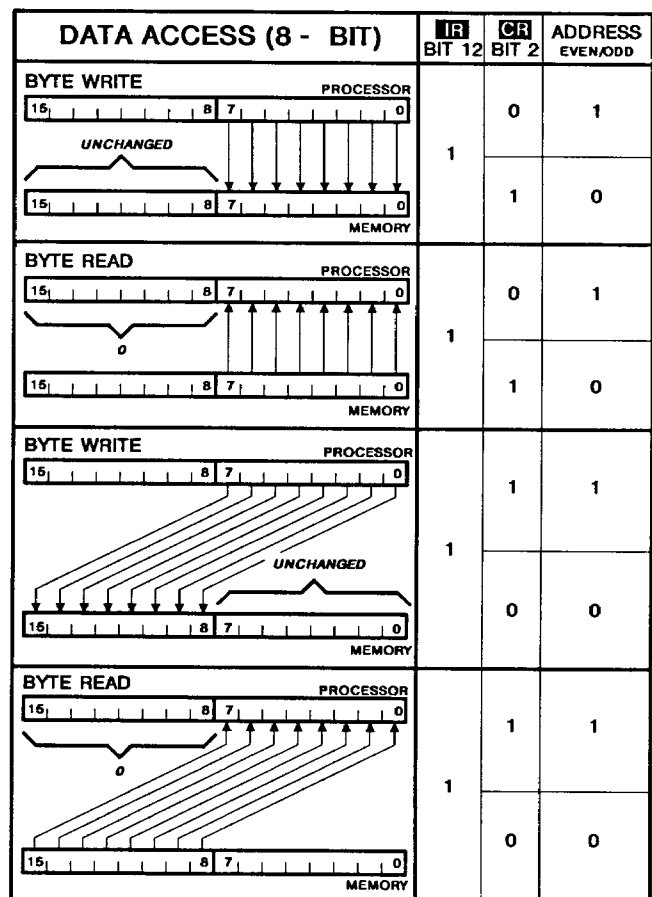

FIGURE 18. MEMORY ACCESS (BYTE)
**CR** Bit 2 = 0: During byte mode Memory access, a **Byte Read** from an even address in the "Motorola-Like" mode will cause the upper byte (MD15-MD08) of memory data to be read into the lower byte position (MD07-MD00) of **NEXT**, while the upper byte (MD15 - MD08) is set to 0. A **Byte Write** operation accessing an even address will cause the byte to be written from the lower byte position (MD07-MD00) of **NEXT** into the upper byte position (MD15-MD08) of Memory. The data in the lower byte position (MD07-MD00) in Memory will be left unaltered. Accessing an odd address for either of these operations will cause the Byte Order Bit to be complemented, with the net result that no swap will occur. See Figure 18.
**CR** Bit 2 = 1: Accessing an even address in the "Intel-Like" Mode means that a **Byte Read** operation will cause the lower byte of data to be transferred without a swap operation. A **Byte Write** in this mode will also result in an unaltered byte transfer. Conversely, accessing a odd address for a Byte operation while in the "Intel-Like" Mode will cause the Byte Order bit to be complemented. In a **Byte Read** operation, this will result in the upper byte (MD15-MD08) of data being swapped into the lower byte position (MD07-MD00), while the upper byte is set to 0 (MD15 - MD08 set to 0). See Figure 18. A **Byte Write** operation accessing an odd address will cause the byte to be swapped from the lower byte position (MD07-MD00) of the processor register into the upper byte position (MD15-MD08) of the Memory location. The data in the lower byte position (MD07-MD00) in that Memory location will be left unaffected.